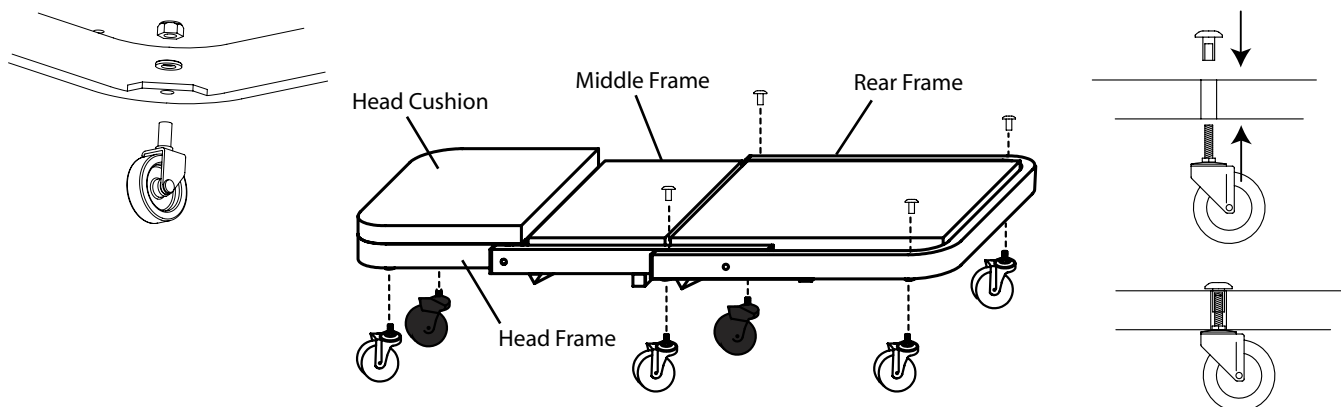

Figure 1 - Model 91000 Components
Before assembling your Folding Creeper, make sure all parts are present. Compare parts with package contents list and Figure 1 illustration. If any part is missing or damaged, do not attempt to assemble, install or operate the product. Contact Omega customer service for replacement parts.
ASSEMBLY INSTRUCTIONS (See Figure 1)
1. Carefully unfold the creeper until flat, as seen in Figure 1.